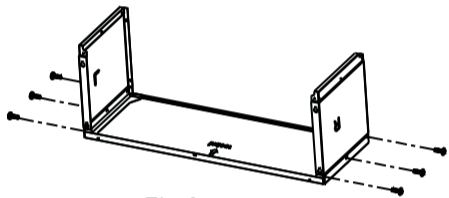

Fig.2
- Install 6 short screws as shown below. (See Fig.2)